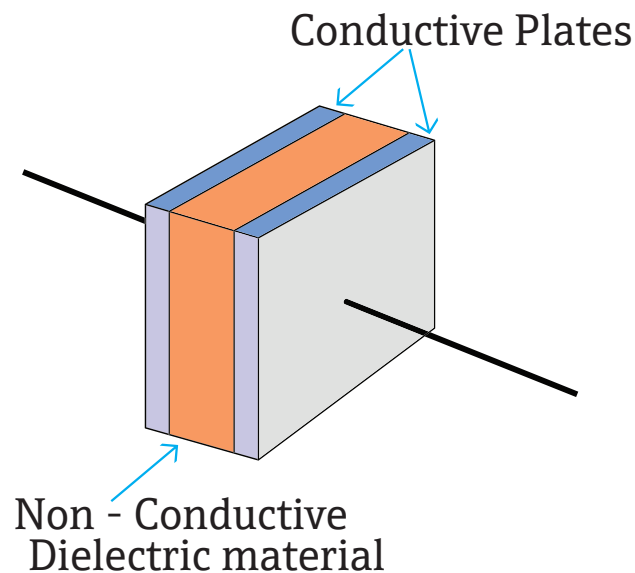

Figure 2: The concept. Two conductive plates separated by a non-conductive dielectric material form a capacitor.
A capacitor is made up of two conductive plates separated by a non-conductive dielectric material (Figure 2). Dielectric materials are categorized by their dielectric constant (DK), which is a number that is related to the material's ability to store a capacitive charge. The higher the dielectric number, the more capacitance it can store.